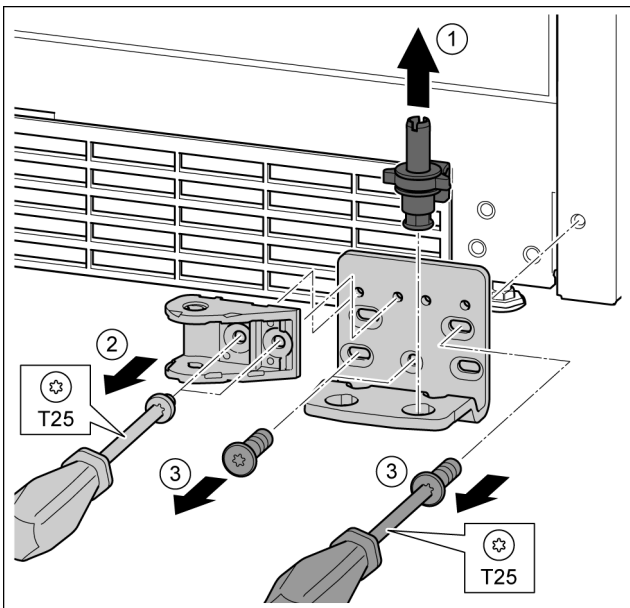

Fig. 29
- ▶ Lift the bearing pin completely upward and remove. *Fig. 29 (1)*
- ▶ Remove the screws with the T25 screwdriver and remove the soft stop connection. *Fig. 29 (2) **
- ▶ Undo the screws with a T25 screwdriver and remove the bearing bracket *Fig. 29 (3)*